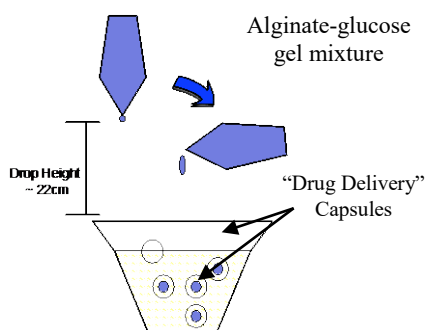

Figure 2. Demonstrating the method for drop formation in CaCl_2
- Hold the container labeled “alginate-glucose” in a vertical position and from a height of approximately 22cm over the cup labeled “ CaCl_2 ” and gently squeeze the container until you observe the formation of a drop from the tip of the container. Then, rotate your container 90 degrees so that it is parallel with the cup containing CaCl_2 . Allow the drop that was forming to fall into the CaCl_2 solution (refer to Figure 2).